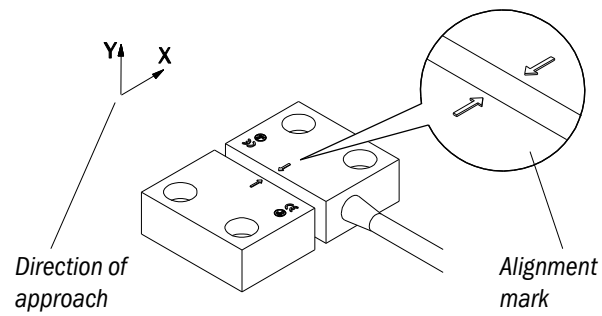

Figure 5: Alignment of sensor and actuator
- ▶ Note the possible operating positions (figure 5).